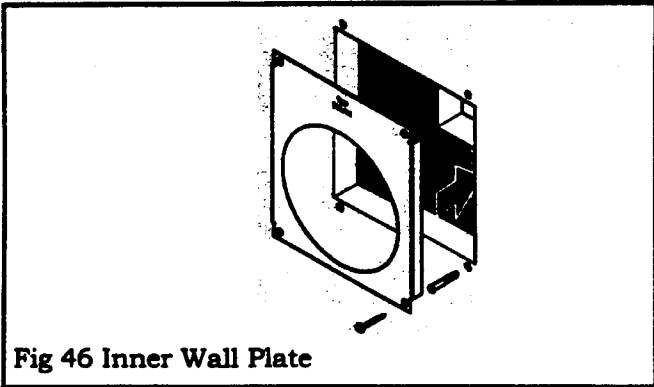

Fig 46 Inner Wall Plate
9.2.2.4 Place the inner wall plate on the inside wall. Make sure that the plate is the correct way up (it is marked "top"). The side flanges should enter the hole. Mark the four fixing holes on the wall. Remove the plate. Plug the wall. Replace the plate and fix with four wood screws provided. (Fig. 46).